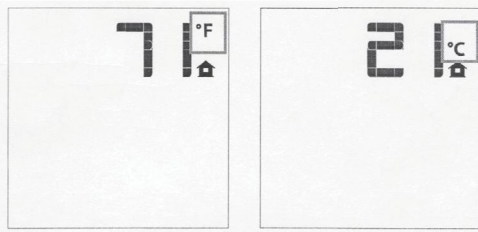

Figure 10 - Remote Control Display in Fahrenheit and Celsius
2. Look at the LCD screen on the transmitter to verify that a °C or °F is visible to the right of the room temperature display (see Figure 10).